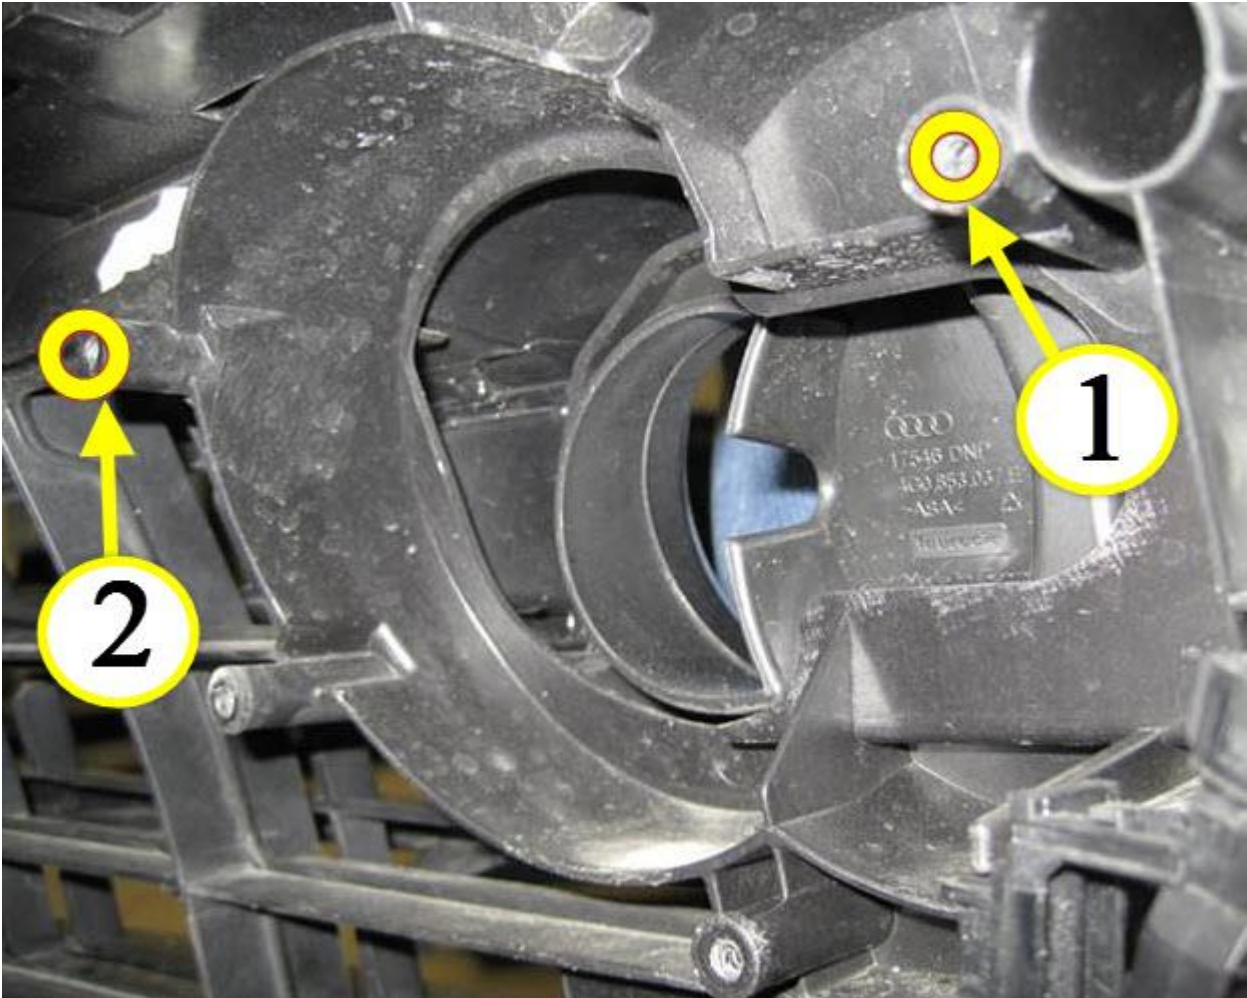

Figure 2. Radiator grill screw retainer locations with camera removed for reference. Spacer (N01152322) will be placed at locations 1 and 2.
- Place a single spacer, part number N01152322, between each of the two upper mounting points that secure the night vision camera bracket to the radiator grill. These screws are shown in the above image as points 1 and 2 (Figure 1). The image below (Figure 2) references these points on the radiator grill as 1 and 2. The next image (Figure 3) shows placement of the spacer on the camera as points 1 and 2, the camera has been removed for clarity.